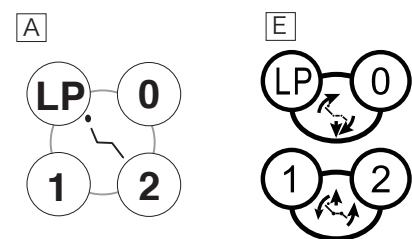

Fig.3-9 Chair Auto Mode Switches
⑥ Chair Auto Mode Switches (Fig.3-9) **A** **E**